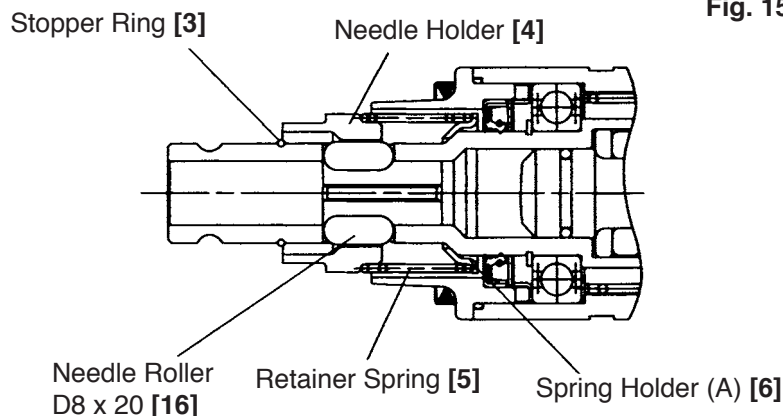

Fig. 16
Remove the Stopper Ring **[3]** using a retaining ring puller. Then the Needle Holder **[4]**, two Needle Rollers D8 x 20 **[16]**, Retainer Spring **[5]** and Spring Holder (A) **[6]** can be removed from the Retainer Sleeve **[17]** (Fig. 16).